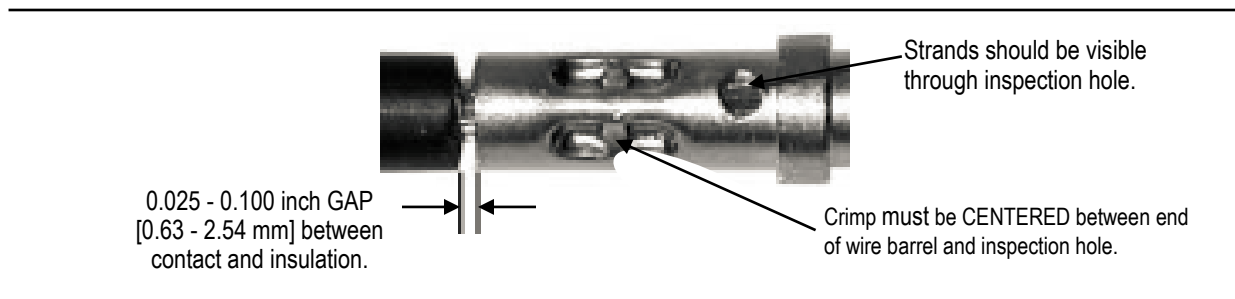

Figure 1
- C.** Before crimping, verify sufficient wire length by checking that ALL wire strands are INSIDE crimp barrel and visible at the inspection hole as shown in Figure 1.
- E. Adjust locator to produce crimps as shown Figure 1 by performing test crimps using the same procedure described in section 1.4.